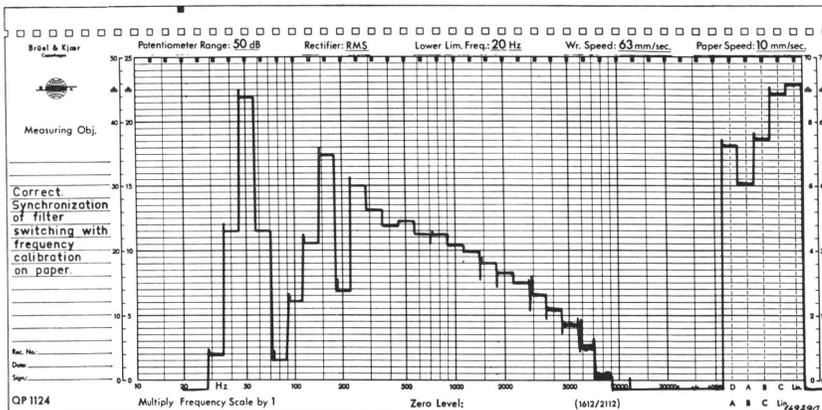

Fig. 4.9 Correct Synchronisation between Recording Paper and Filter Switching
- Correct synchronization is obtained when the switching over from the "80" Hz (c/s) to the "100" Hz (c/s) filter takes place on the "90" Hz (c/s) line only, refer Fig. 4.9
To ensure that synchronization is achieved within the proper 1/3 octave filter the component of the power supply fundamental frequency should be represented as the highest value on the spectrogram within the filter covering this fundamental. From Fig.4.9 it is seen that the fundamental (here 50 Hz (c/s)) is the highest value and rests within the filter concerned. In the case of a 60 Hz (c/s) power supply frequency the highest value would be contained within the 63 Hz (c/s) filter.